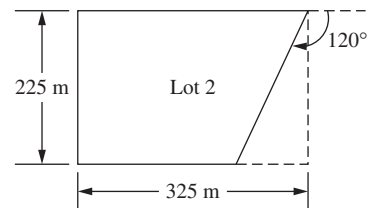

Figure P3.5 Dimension of lot 2 in the new subdivision.
- 3-5.** The same engineering intern calculates the area of lot 2 shown in Fig. P3.5 as $50,000 \text{ m}^2$. Is this the correct answer? If not, find the correct answer.